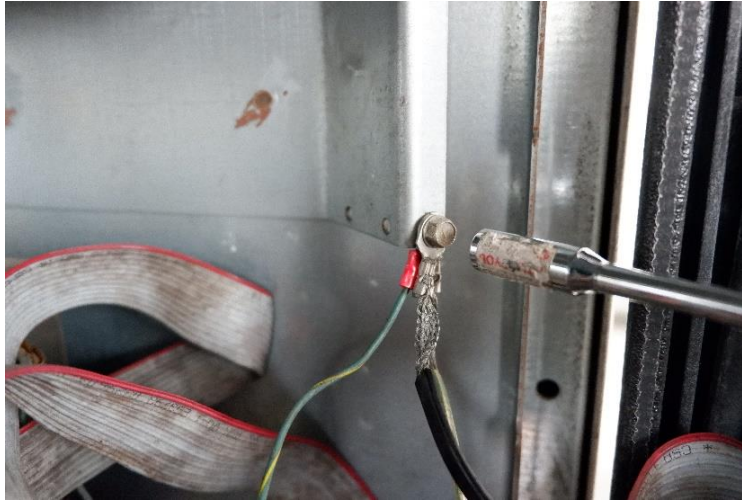

Fig 2.8 – Various cable restraints
- 10.** Remove the cables that are attached on the dispenser in the below shown position, on the right side of the dispenser. (Fig 2.8)